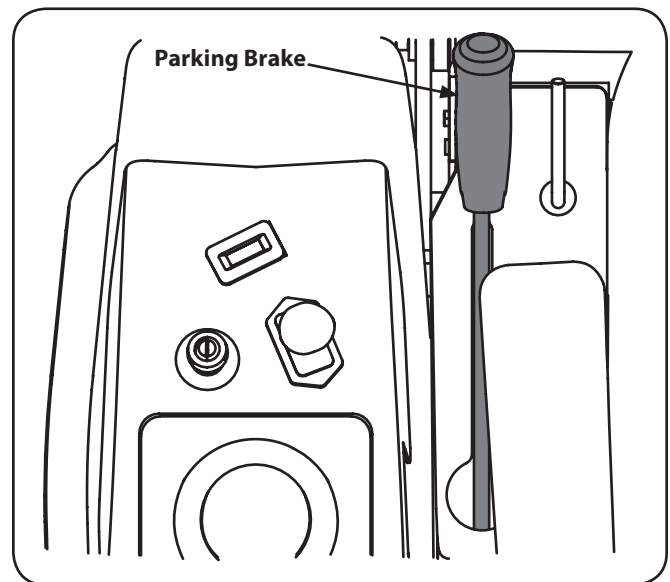

Figure 3-2
4. Engage the transmission bypass valves by engaging the parking brake. See Figure 3-2. The tractor will still not move freely until the parking brake is released.